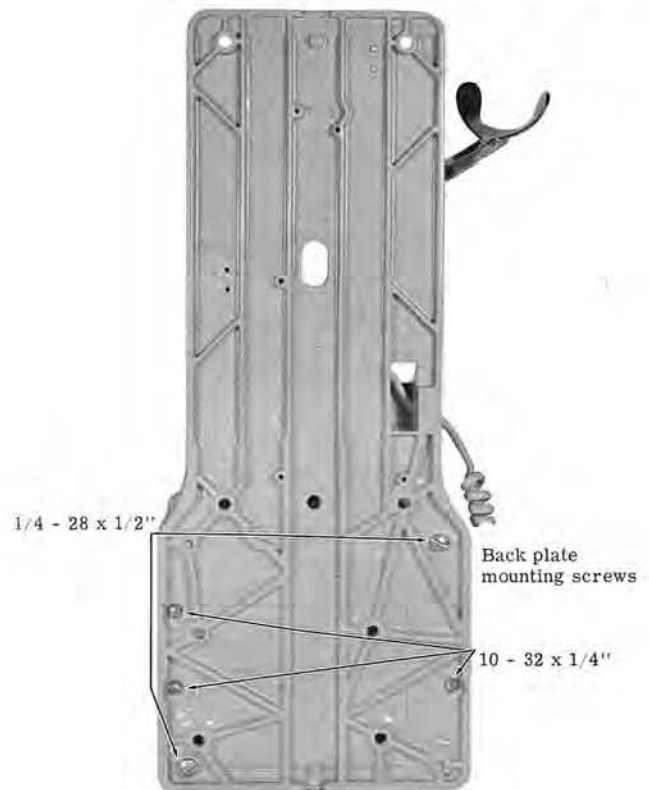
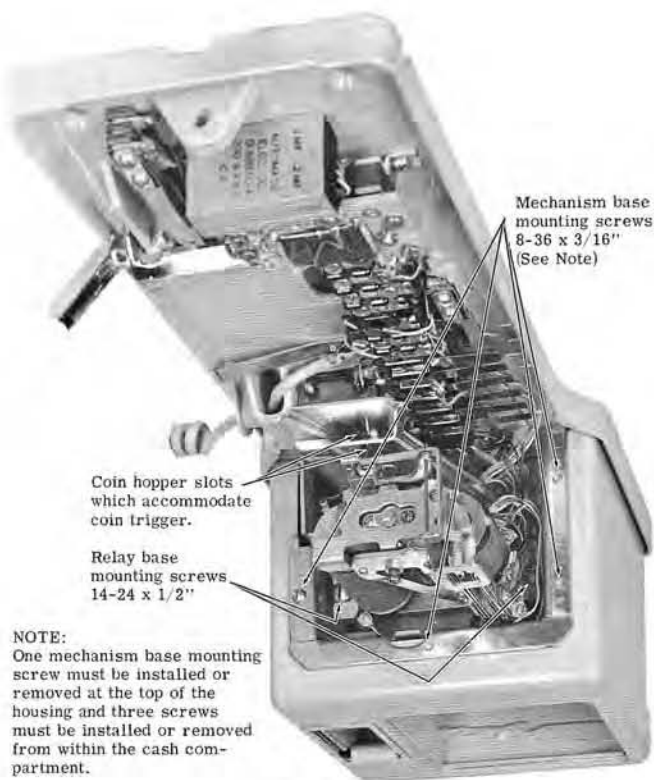
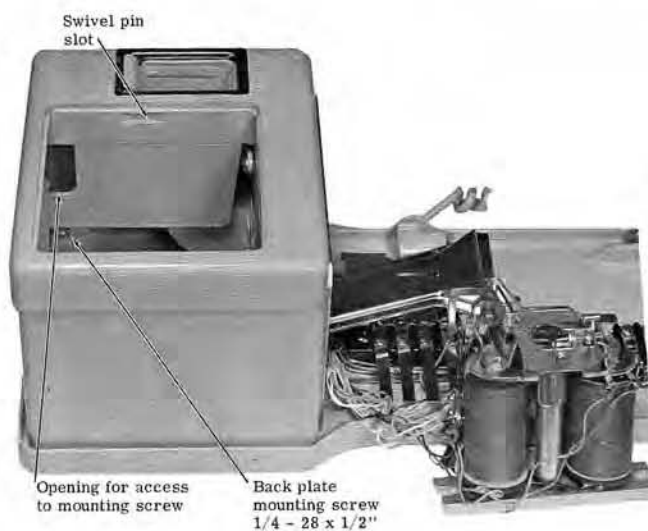
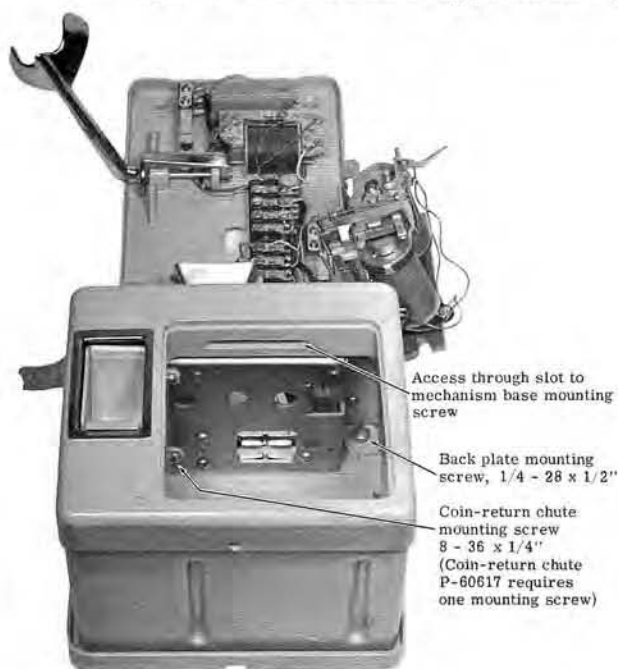

Figure 2.
Figure 3.
Figure 5.
Figure 4.
(4) Remove five mounting screws from the rear of the back plate (see Fig. 2).
(5) Remove dust cover clip and dust cover. Remove the two screws which attach the coin relay mounting base to the mechanism base (see Fig. 3). Carefully withdraw the coin relay assembly from the mechanism base and lay aside. Do not disconnect wire connections.
(6) Remove the two remaining screws which attach the back plate to the lower
housing (see Figs. 4 and 5). Access to the back plate mounting screw shown in Fig.5 is attained by placing a screwdriver with a blade of approximately 6
inches through the slot (shown above the mounting screw in Fig. 5) and onto the screw. Remove lower housing from back plate. Be careful not to disturb relay assembly wire connections.
- (7) Remove four screws which attach mechanism base to lower housing (see Figs.3 and 4). Remove coin-return chute and mechanism base.
- (12) Insert swivel pin. Lay the housing on the work bench with the left side down so that the head of the swivel pin is flush against the work bench. Peen over legs of swivel pin against side of partition within slot (see Figs.5 and 10). Legs must be peened completely into slot. If any portion of legs protrudes above slot, installation of cash compartment door may not be possible.
- (1) Remove mounting screws that attach old coin-return chute to mechanism base.
- (2) Place the mechanism base in position on lower housing with mounting holes aligned and install mechanism base mounting screws (see Figs.3 and 4). Install the screw through the slot last (see Fig.4); Use adhesive material such as beeswax on tip of screwdriver to hold screw during insertion.
- (3) Install coin-return chute mounting screw (see Fig.4).
- (4) With the lower housing upright, place the back plate and relay assembly in position for attachment. Be careful not to disturb relay assembly wire connections.
- (5) Install five back plate mounting screws from rear of back plate (see Fig.2).
- (6) Align relay assembly so that coin trigger lever is positioned through both slots in coin hopper (see Fig.3) and does not touch any side of slots. Trigger will rest against top of slots. Install relay base mounting screws (see Fig.3) maintaining trigger alignment in slots. Check for free trigger movement after base mounting screws have been installed.
- (7) Place back plate and lower housing down on bench so that opening in cash compartment faces up. Install back plate mounting screws shown in Figs. 4 and 5. To install screw shown in Fig.5, attach screw to screwdriver tip with adhesive material such as beeswax; insert screw through opening (shown above mounting screw in Fig. 5) and into position; tighten screw.